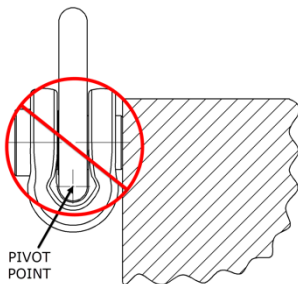

Fig 7
- When pulling Traditional Side Pull hoist ring installed on a side of the lifted object the pivot point MUST be above the bolt axis (Fig.7).